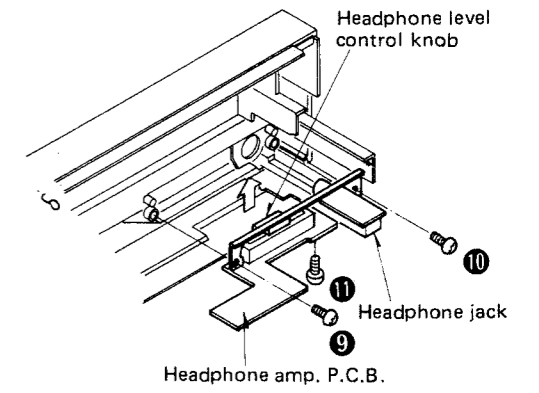

Fig. 6
2. Remove the 2 headphone jack and headphone amplifier P.C.B. fitting setscrews. [Fig. 6 : ⑨, ⑩]
3. Remove the setscrew [Fig. 6 : ⑪] of the headphone amplifier P.C.B.
4. Pull out the headphone level control knob in the direction of the arrow as in Fig. 6.